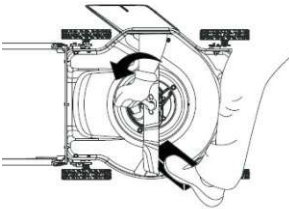

Fig.11A
- Remove the hex bolt and washer which hold the blade and blade adapter to the engine crankshaft. Remove the blade and adapter from the crankshaft. (Fig.11A)